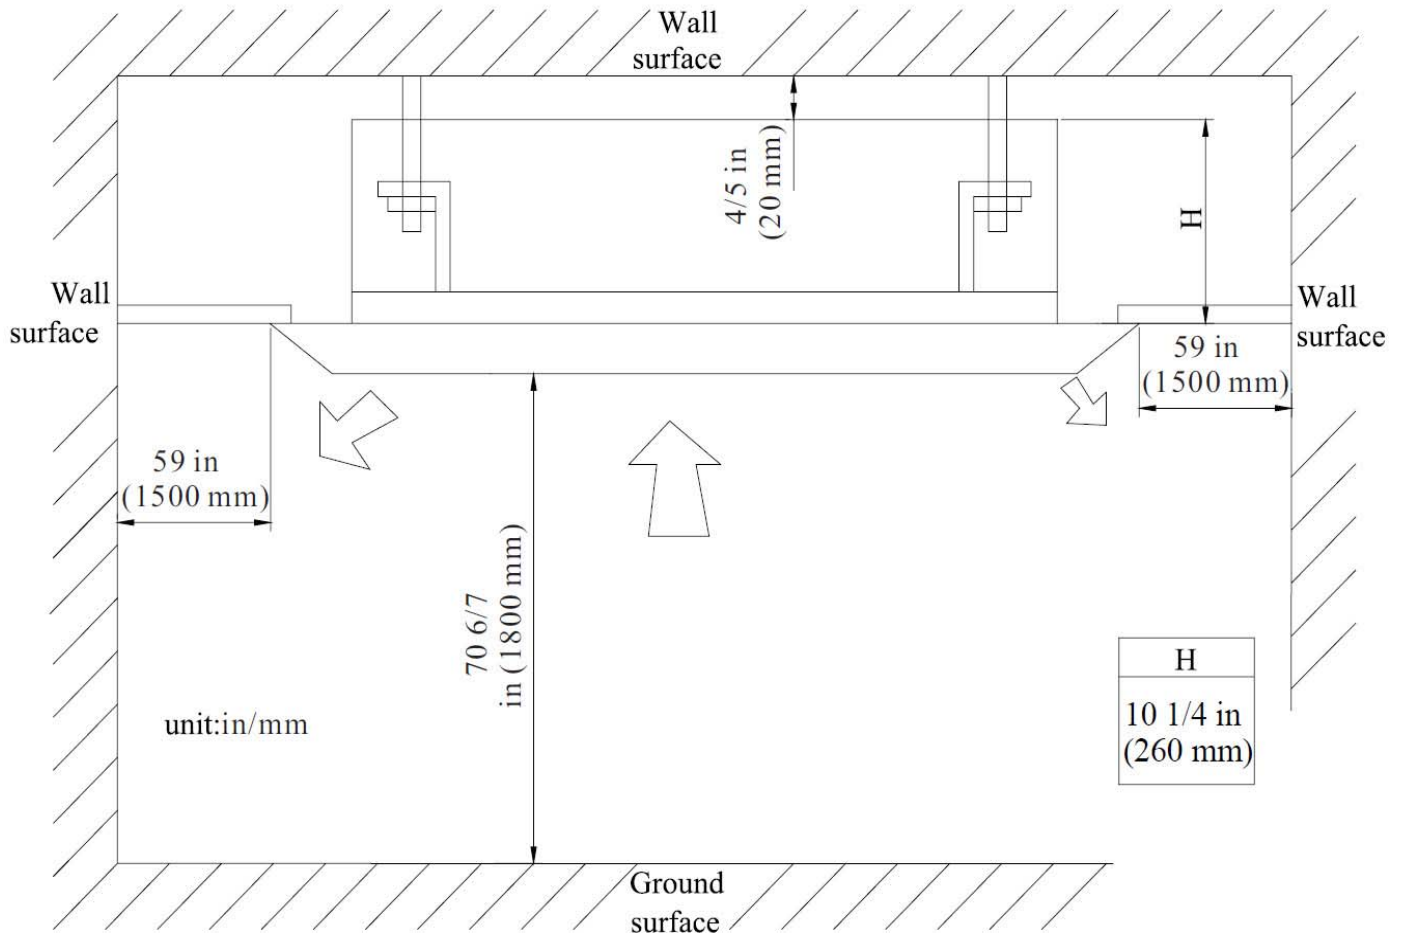

Fig. 4 - Cassette Clearance
Allow sufficient space for airflow and servicing unit. See Fig. 4 for minimum required distances between unit and walls or ceilings.
- A location which provides appropriate clearances as outlined in Fig. 4.